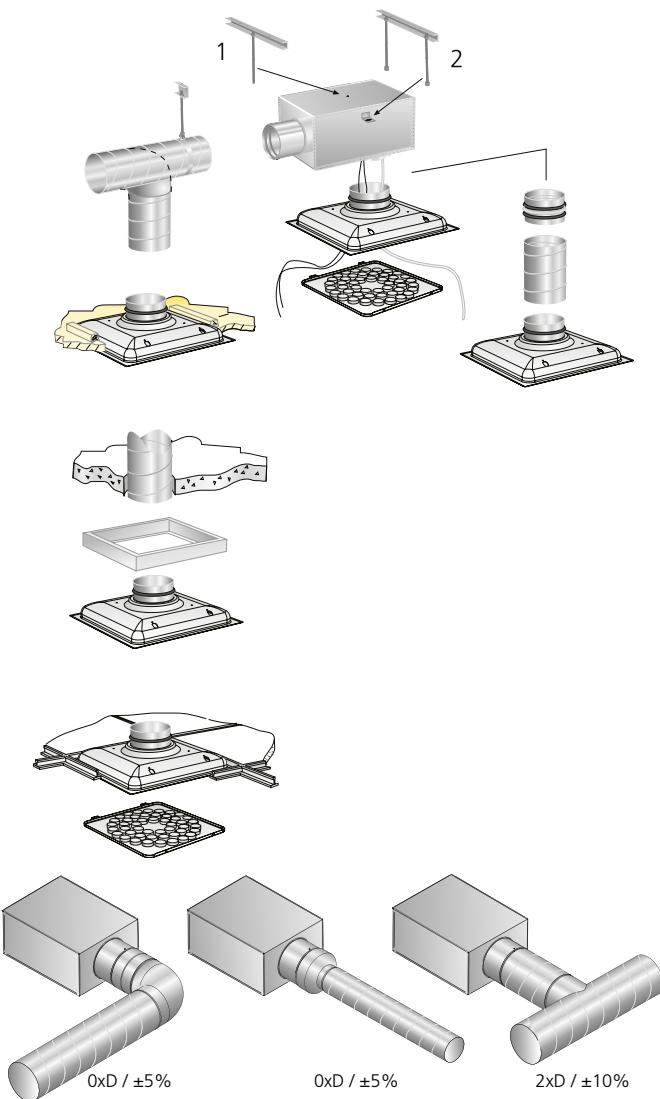

Figure 3. Installation options for the ALS commissioning box.
- The distance between the commissioning box and the air diffuser can be increased up to 500 mm with a circular duct, without having to lengthen the measuring tubes and damper adjustment cords. See figure 3.
- Measurement accuracy and straight section requirement before commissioning box. See Figure 3.
- Figure 3 shows a bend, a change in dimension and T-piece.